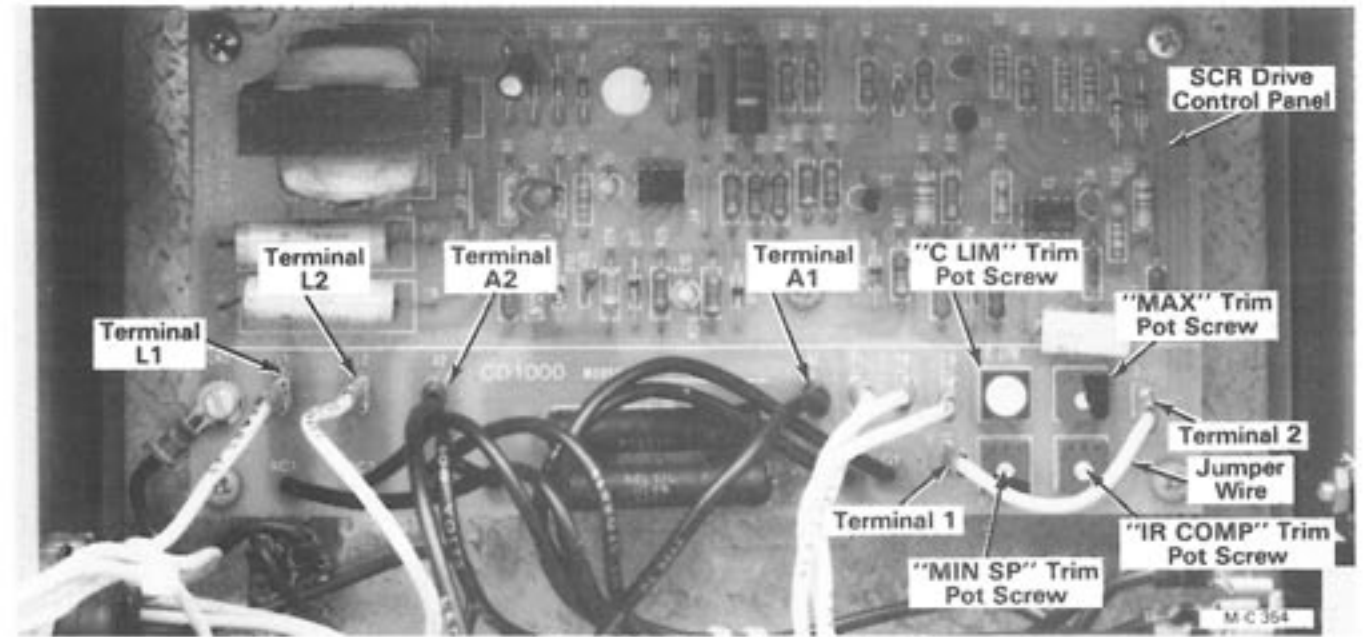

Figure 25 - SCR Drive Control Panel
low, turn the Current Limit ("CUR L") trim pot screw clockwise. If the reading is too high, turn the screw counterclockwise, see Figure 25, page 15.
1. Correct rotation is shown in Figure 26. To change motor and metering roll rotation move the wire on terminal A1 to A2 and A2 to A1 on the SCR Drive control panel, see Figure 25.
1. Use a tachometer or strobe light to check motor RPM. If RPM is below 1750, turn the Maximum Speed ("MAX") trim pot screw clockwise, see Figure 25. If the RPM is above 1750, turn the screw counterclockwise.
1. Using a tachometer or strobe light check the motor speed. If motor speed is below 100 RPM, turn the Minimum Speed ("MIN SP") trim pot screw clockwise. If motor speed is above 100 RPM turn screw counterclockwise, see Figure 25.
2. Turn the I.R. Compensation ("IR COMP") trim pot screw clockwise until the motor begins to surge. Turn the screw counterclockwise until the surging stops, see Figure 25.
4. Check for 115V power between terminals L1 and L2 on the SCR Drive control panel, see Figure 25. If there is no power between terminals L1 and L2 proceed to steps 5, 6 and 7. If there is power between terminals L1 and L2 proceed to steps 8, 9 and 10.
8. Check to be sure that the jumper wire between terminals 1 and 2 on the SCR Drive control panel is on and that connections are clean and tight, see Figure 25.
between terminals A1 and A2 on the SCR Drive control panel, see Figure 25.